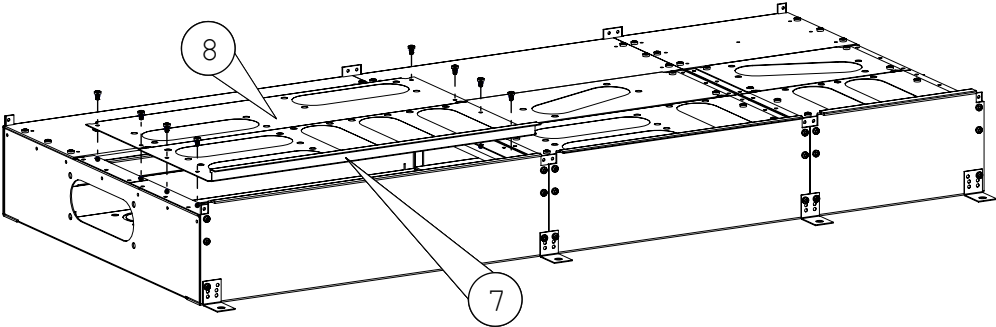

Fig. 2.2. The enclosure base can be fitted with intermediate and instrument compartment bottom plates.
If necessary, instrument compartment (7) and intermediate bottom plates (8) are installed to the base (Fig. 2.2).